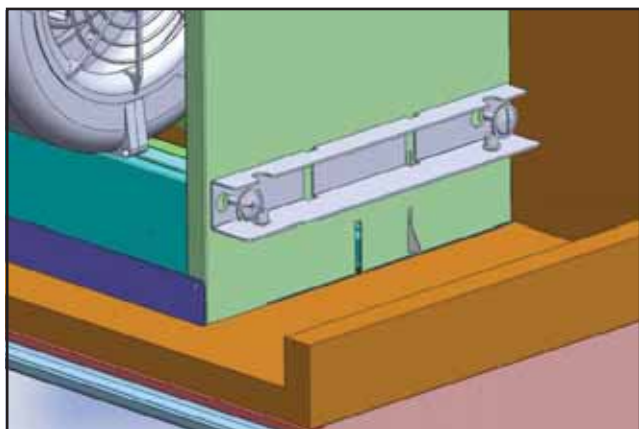

Fig.5
4) **24" Models Only.** Secure upper brackets to left and right sides of hood body by using (2) 3/16 x 3/8" screws for each bracket. Fig.5. Make sure the (2) captive nut screws holes on the bracket are facing downward.